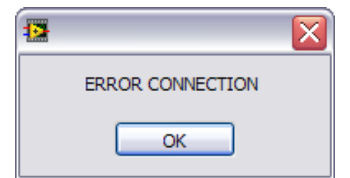

Figure 9. **ERROR CONNECTION** Window
4. If the **EVAL-SDP-CB1Z** is not connected to the **EVAL-AD7293SDZ**, a message box appears (see Figure 9). Check that the connection between the **EVAL-SDP-CB1Z** and the **EVAL-AD7293SDZ**, and run the program again.